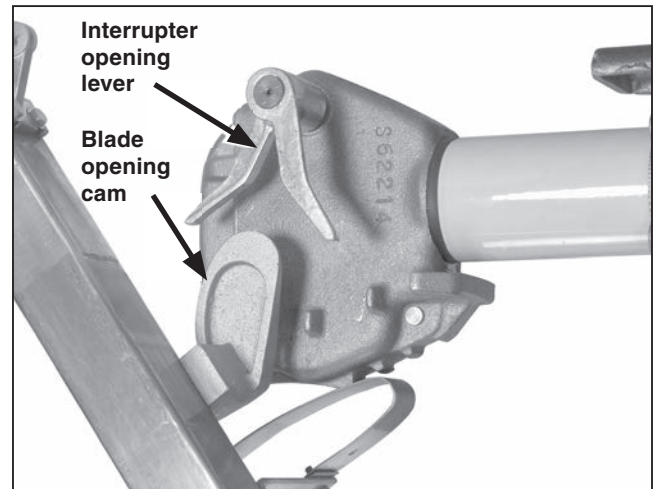

Figure 39. Verifying blade opening cams do not hit the interrupter opening levers on closing.
- (f) After opening the blade fully, slowly close the blade and verify that the two opening cams do not hit the interrupter opening levers. See Figure 39.